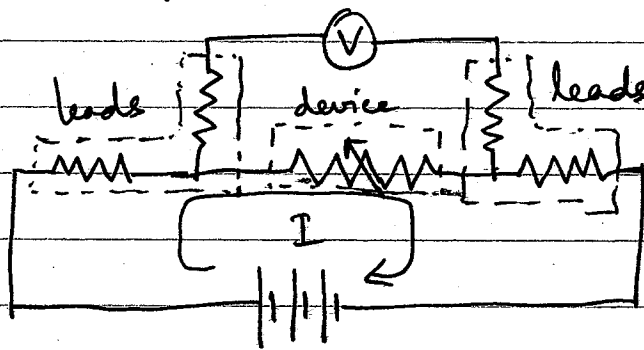

fig 4: A four-terminal measurement.
- This problem is cured by making a four-terminal measurement shown in fig 4.